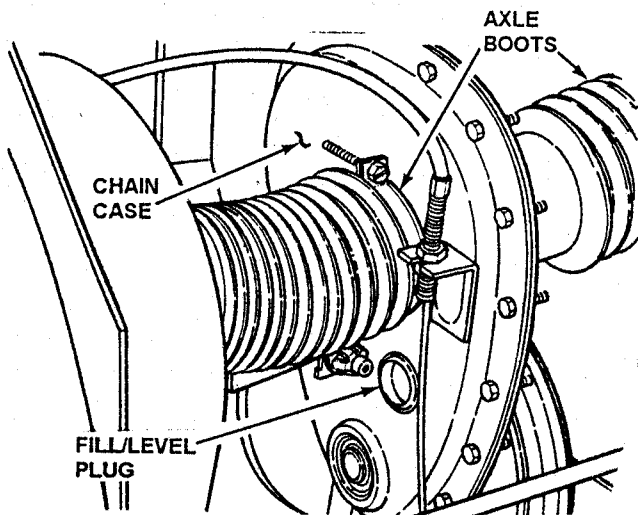

FIGURE 3.10
- a. Check lubricant in chain case with Rear Engine Rider standing on its rear bumper by removing fill/level plug and looking for lubricant on the internal components. If lubricant is not visible, add a small amount of SNAPPER "OO" grease until lubricant can be seen below the edge of the hole. See Figure 3.10.
- b. Check the fill/level plug for damage. If worn or cracked, replace it with a new SNAPPER part number 1-1024 plug. See Figure 3.10.
With Rear Engine Rider standing on its rear bumper, check axle boots for signs of wear or cracks. If cracks or wear are visible, contact a SNAPPER dealer for service. Refer to Figure 3.10.